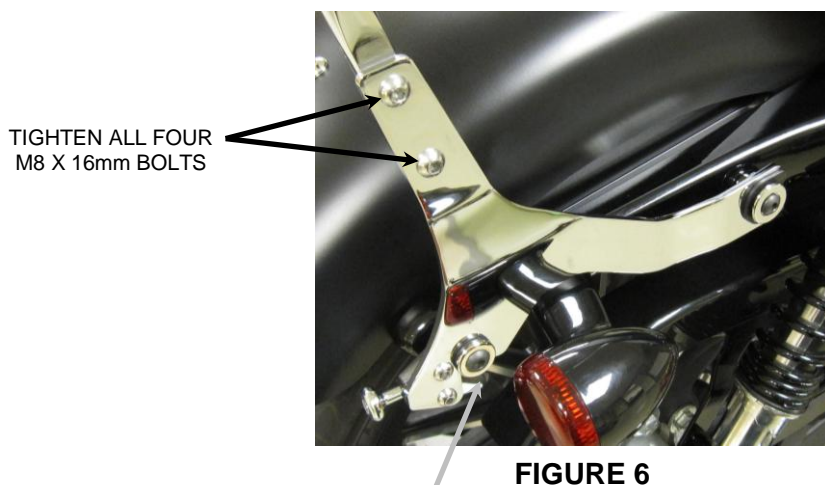

FIGURE 6
15. Pull backward on both detachable latch knobs and then push downward on the backrest to allow the backrest to sit completely on the rear mounting bushings. Then release the detachable latch knob to fully engage the latch pin underneath the mounting kit bushing. See **FIGURE 6**.
16. Always check to make sure both detachable latch pins are fully engaged on the bottom of the mounting kit bushing. Failure to fully engage the detachable latch pin could cause the backrest to come loose while riding. See **FIGURE 6**.
17. Pull backward on the top of the sissy bar and then tighten all four M8 X 16mm bolts. See **FIGURE 6**.